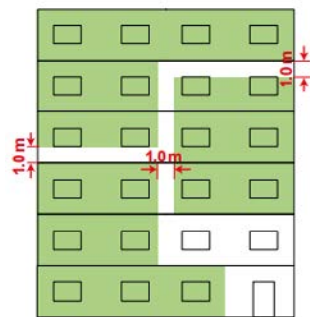

Abb. 9
- 1 m distance between individual partial areas if the greenery extends over several storeys (Fig. 9 - 11)